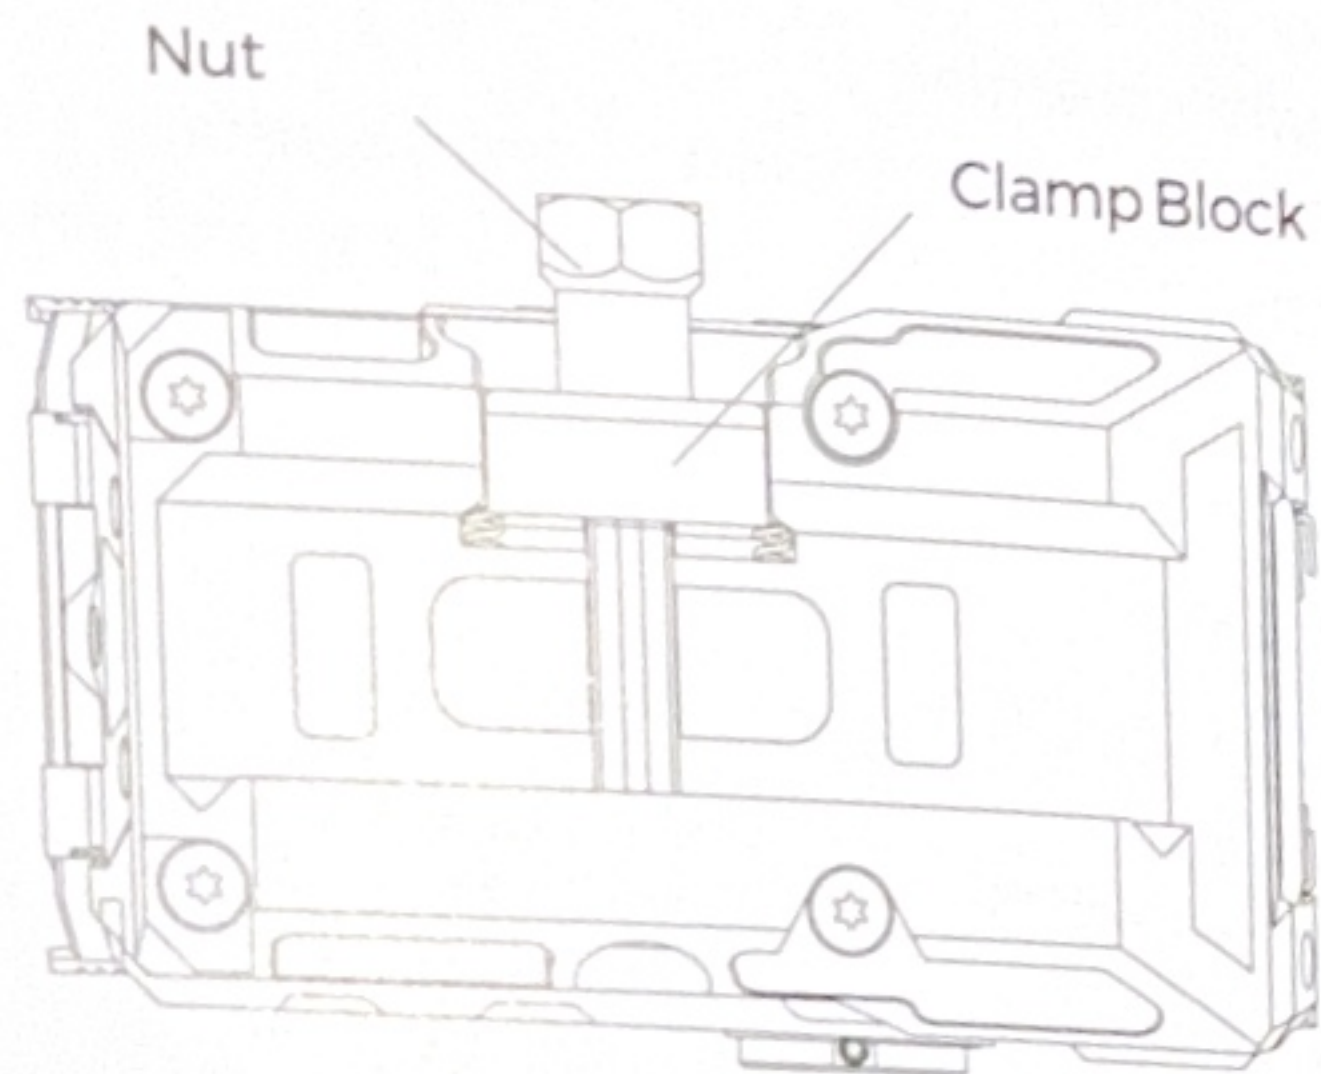

Fig 4
1. Use the included 11mm tool to loosen the nut by rotating counterclockwise. (See Figure 4)